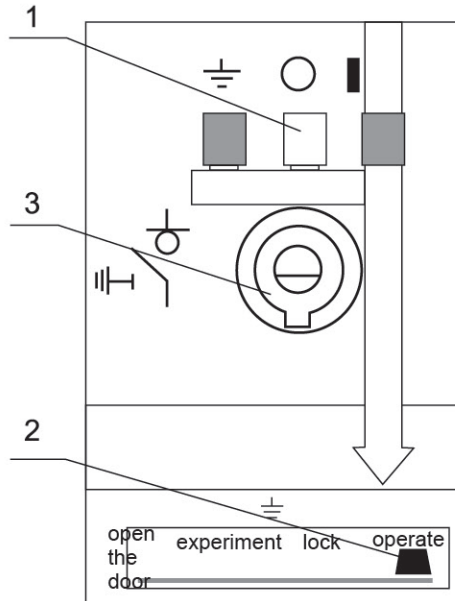

Figure 5
Place the load switch location indicator to the site shown in Figure5 (1). The selector is placed on the operation site, shown in Figure5 (2). Check the shaft rabbit which should be downwards as indicated in Figure5 (3). When the fuse is burned out or the electric operation makes the switch open, the slot is leftwards, operation handle need to be inserted to the hole, turn the slot anticlockwise to downwards (with "crack" sound). Insert the operation handle to the slot, then make the guidance key match the slot shafting, turn it with approximately 80 degrees clockwise until it is closed. If the switchgear is equipped with double-spring mechanism, when turn to the terminal point, increase strength to turn it until the switch is closed at one time.